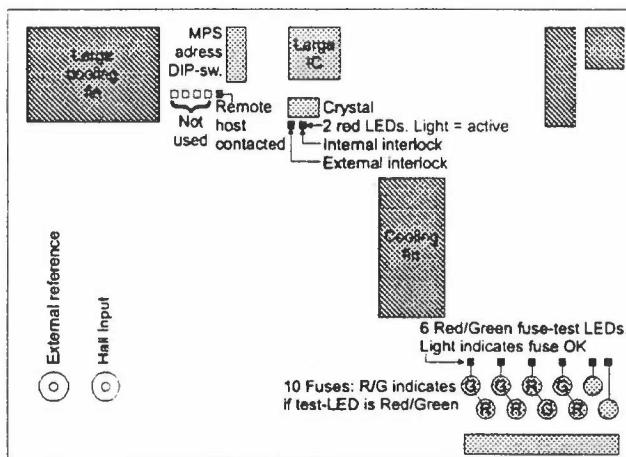

Fig. 5.1-1 The control board with LED positions.
4. Observe which LEDs are illuminated on the Control panel or the Switch module, see Fig. 5.1-1, and section 6.1.2 below Fig. 6.1.2-1.